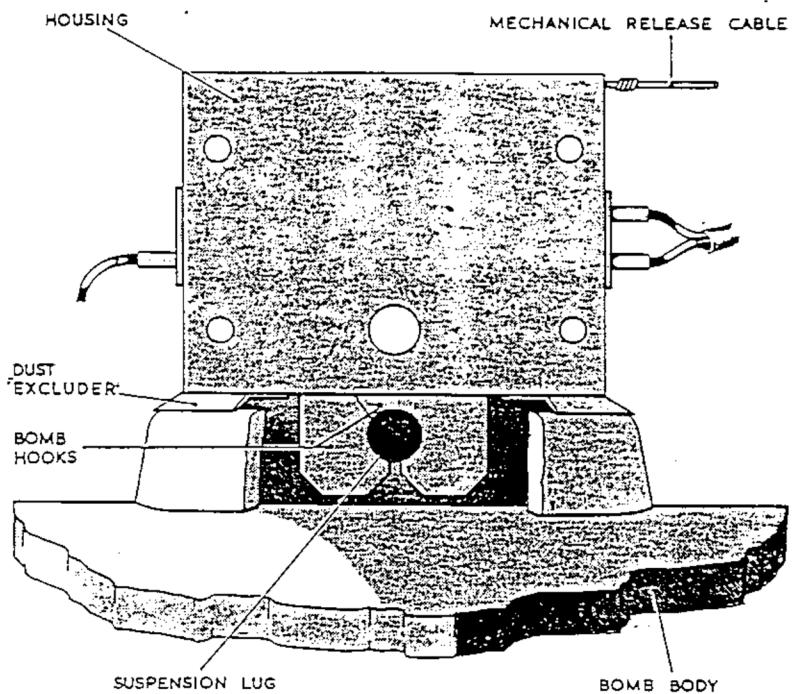

Fig.4 Raised suspension lug, with release unit fitted
- 2 The release units are designed for use with stores fitted with flush suspension lugs of either type, i.e. raised or recessed (fig. 4 and 5).